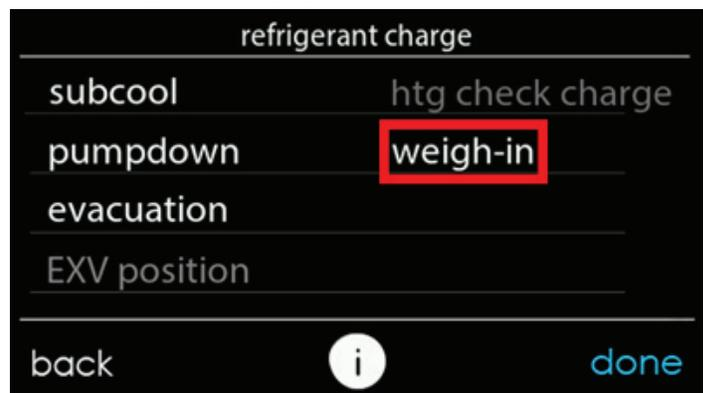

Fig. 16 – Weigh-in Option for charging below 65°F OAT and above 105°F OAT
- If the outdoor ambient is below 65°F or above 105°F then the refrigerant must be weighed in. Press the "weigh-in" option in the "refrigerant charge" screen (see Fig. 16).